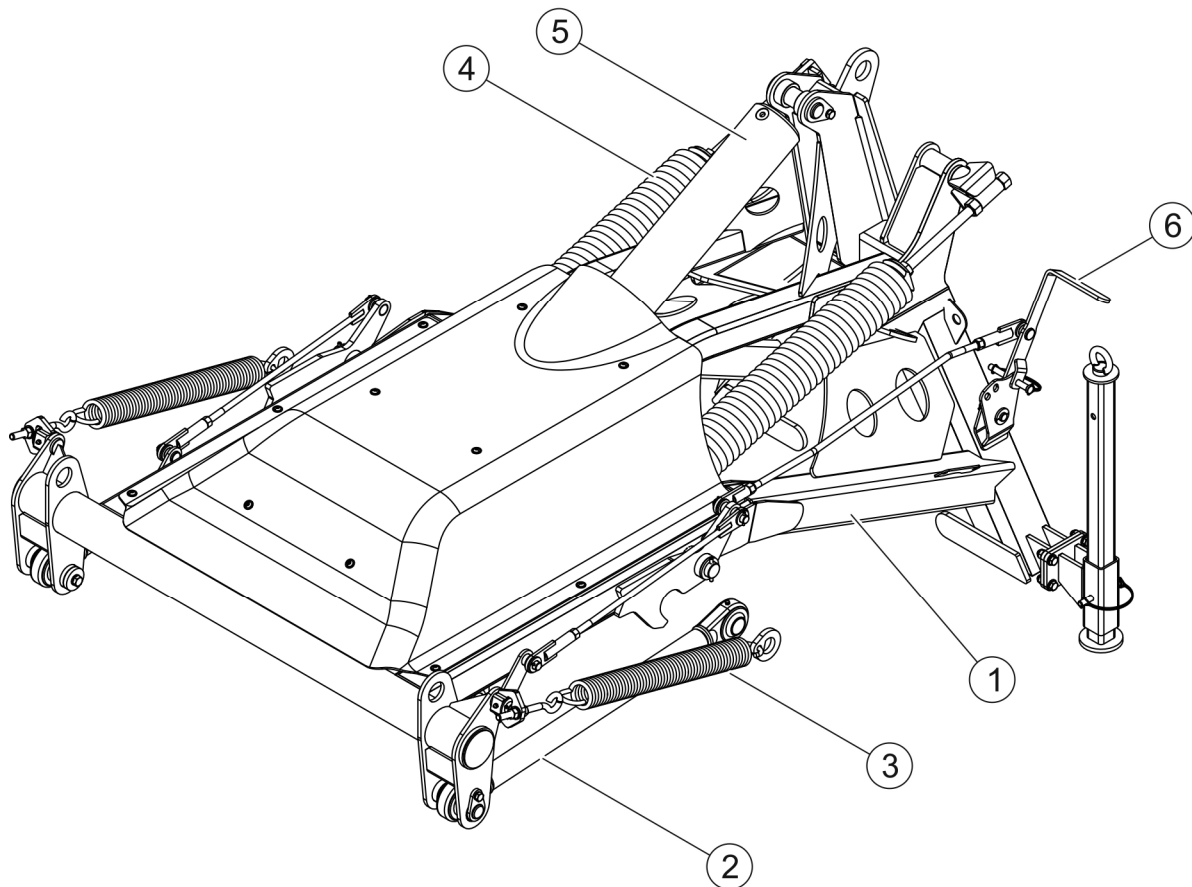

FIGURE 3.2 Linkage design
(1) linkage frame, (2) tension rod, (3) tensioning spring, (4) stay spring, (5) hydraulic cylinder, (6) transport lock
The mower linkage (FIGURE 3.2) consists of a linkage frame (1), with tension rods (2) attached to the frame by means of rotary pins. Tension rods support the main frame with the cutting unit. The spring (3) relieves load from the left side of the mower to provide uniform pressure of the cutting unit on the ground. To ensure correct pressure of cutter bar on the surface, the machine is equipped with two strong horizontally mounted stay springs (4). These are installed in parallel to pins of the linkage frame. A spring adjustment system enables you to set an optimum pressure of the cutter bar on the type of surface and type of green forage mown etc. A hydraulic cylinder (5) is used to set the mower into the transport position and limit the downward movement of the cutting unit. Pin (6) locks the mower in transport positions when hydraulics are operated by mistake or a hydraulic line (5) ruptures.